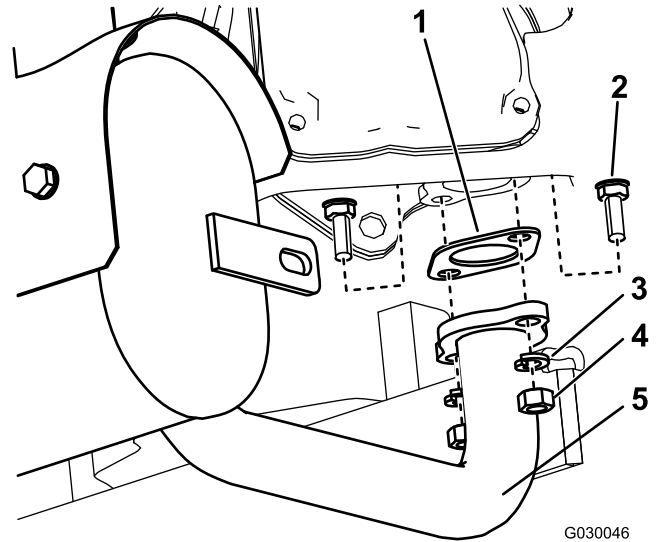

Figure 3
3. Remove the muffler (Figure 3).
1. Install the new muffler and 2 new gaskets to the engine using the nuts (M8), lock washers, and bolts (M8) that you removed from the previous muffler (see Figure 3).